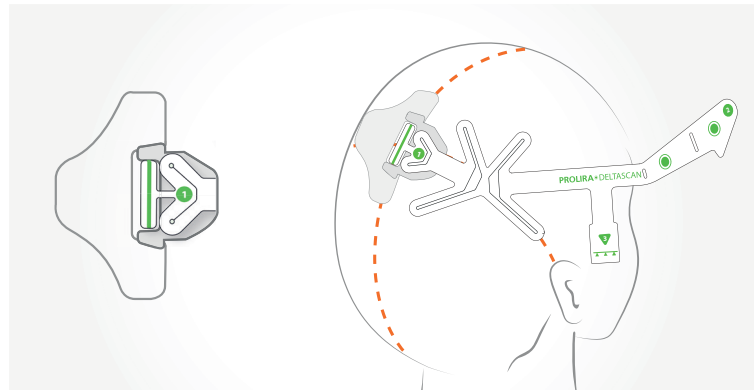

Figure 15: Position electrode 1 (the green stripe) of DeltaScan Patch on the crown of the head, in the HairLock slot, if a HairLock is used.
- Position the electrode (indicated by a green stripe) on the crown of the patient's head (in the HairLock slot if a HairLock is used), as indicated in Figure 15.